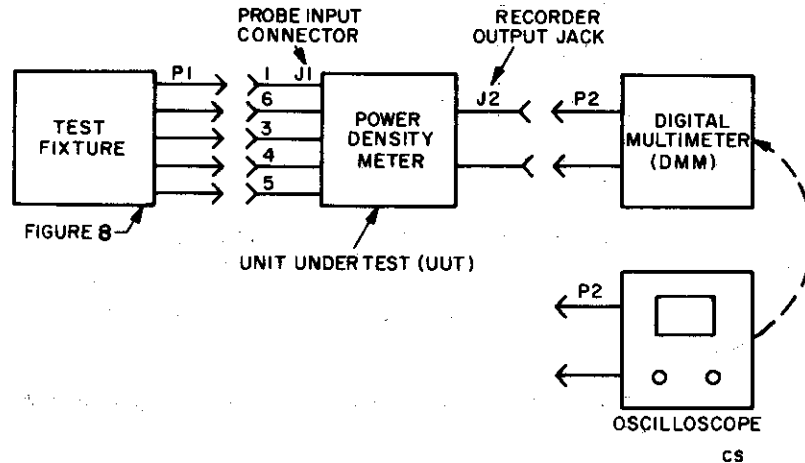
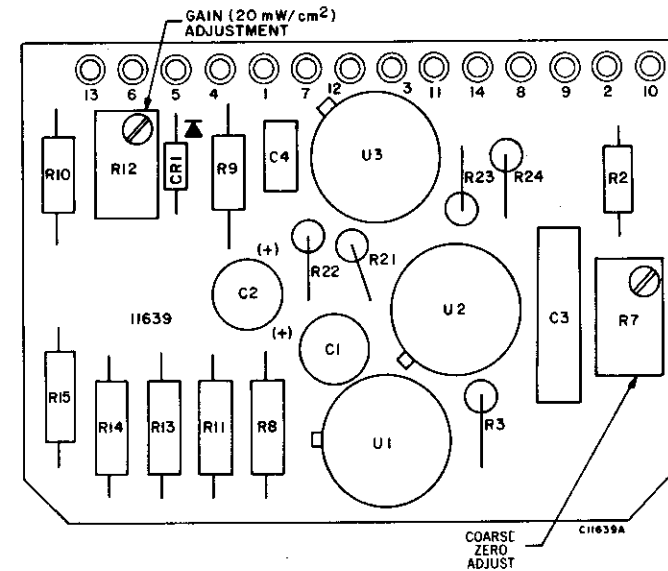

Figure 9. Model 484 Power Density Meter Calibration Setup Block Diagram
Figure 10. Model 484 PC Board Components/Adjustments Location
(1) Connect J1 of the UUT to test fixture (figure 9).
(2) Rotate Range Selector switch on UUT (figure 3) and on test fixture (figure 9) to 0.02 mW/cm²
(6) Adjust Course Zero Adjust R7 (figure 10) for an indicator Meter M1 reading of approximately Zero (figure 3).
(1) Connect DMM to UUT Recorder Output Jack J2 (figure 9).
(2) Adjust fine ZERO front panel control R5 on UUT for zero readout on DMM at J2.
(3) Set test fixture (figure 9) ZERO-OPERATE switch to OPERATE. DMM should read 124 mV ± 3mV.
(4) Rotate Range Selector switches on UUT and test fixture to 0.2 mV/cm² and repeat steps (2) and (3).
(5) Rotate Range Selector switches on UUT and test fixture to 2 mW/cm² and repeat steps (2) and (3).
(6) Rotate Range Selector switches on UUT and test fixture to 20 mW/cm² and repeat steps (2) and (3)
(7) Adjust Gain Control R12 (figure 10) on PC board of UUT for DMM reading of 124mV.